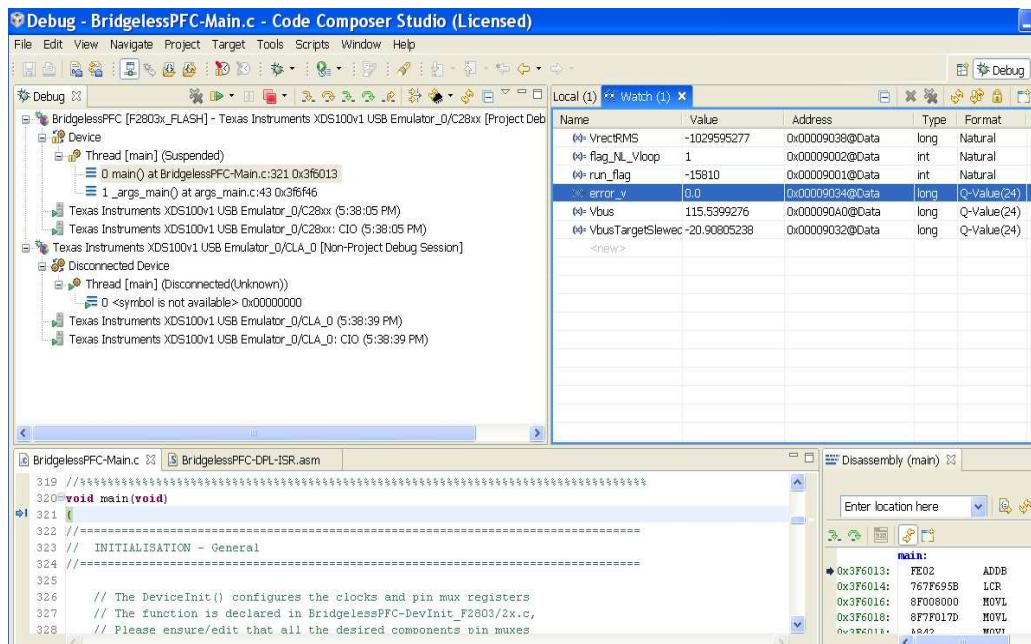

図 10. CCS Watch View for Build 1
2. Click the "Watch (1)" tab at the top watch view. You may add any variables to the watch view. In the empty box in the "Name" column, type the symbol name of the variable you want to watch and press enter on keyboard. Be sure to modify the "Format" as needed. The watch view should look something like the following in 図 10